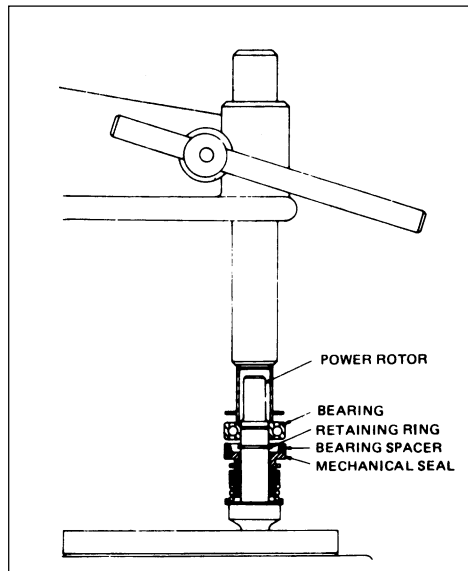

Figure 2
2. Place the spring holder and spring on the shaft. Make sure that retaining ring (35) furnished on rotor size 250 and seal spacer (38) for rotor size 275 and 350 is installed on power rotor. Place the spring holder and spring on rotor shaft.
5. Insert seal gasket furnished with new mechanical seal into the bore of inboard end cover (46). Clean and lubricate the face of the carbon ring in the mechanical seal and place the stationary seat and bearing spacer on the power rotor.
7. Place the ball bearing on the shaft. Using a hollow tube and pressing on the inner race, set the bearing firmly against the inner retaining ring (Figure 2). Do not press the bearing on the outer race!